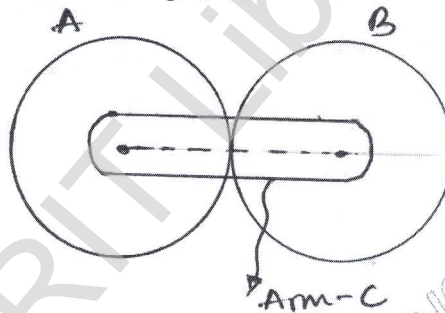

Fig.Q8(b)
b. In an epicyclic gear train, an arm carries two gears A and B having 36 and 45 teeth respectively. If the arm of the gear train rotates at 150 rpm in the anticlockwise direction about the centre of the gear A which is fixed, determine the speed of the gear B. If the gear A instead of using fixed, makes 300 rpm in the clockwise direction, what will be the speed of gear B. Arrangement is shown in Fig.Q8(b).